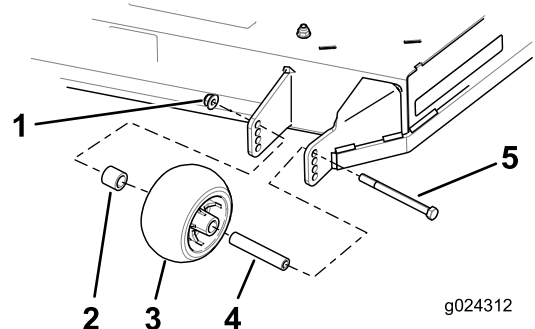

Figure 24
3. Remove the flange nut, anti-scalp roller, and bolt from the bracket (Figure 24).
4. Align the bolt and anti-scalp roller in the hole of the bracket that matched the closest height-of-cut position (Figure 24).
5. Insert the bolt into the bracket hole and secure the bolt and anti-scalp roller with the flange nut (Figure 24).